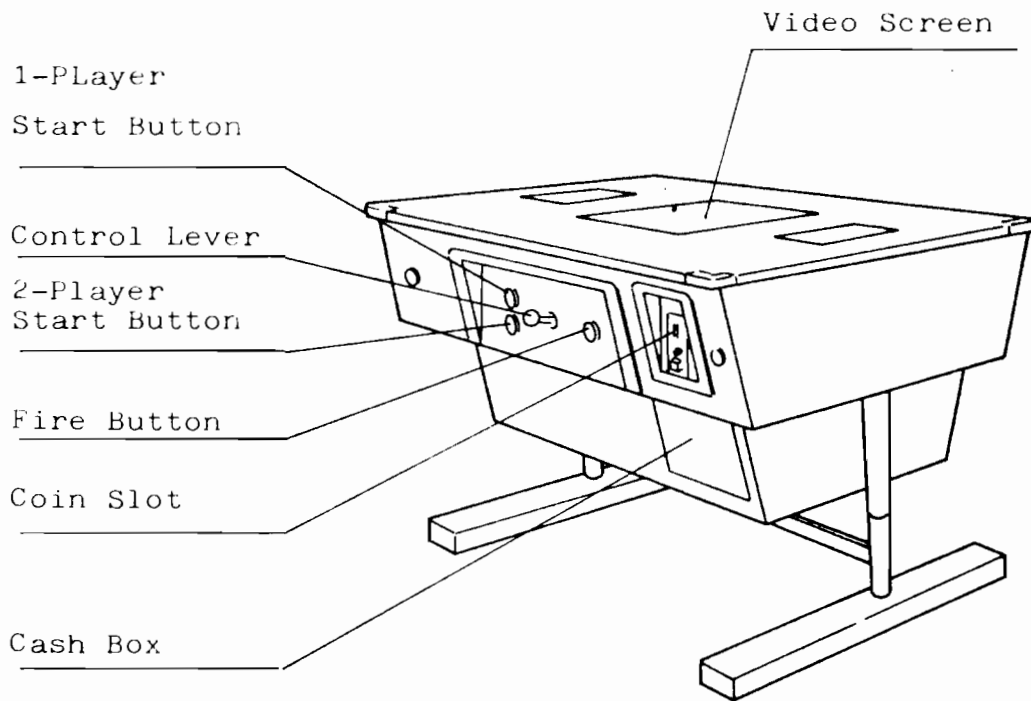

Fig. 1
1. Name of Part (See Fig. 1 and 2)